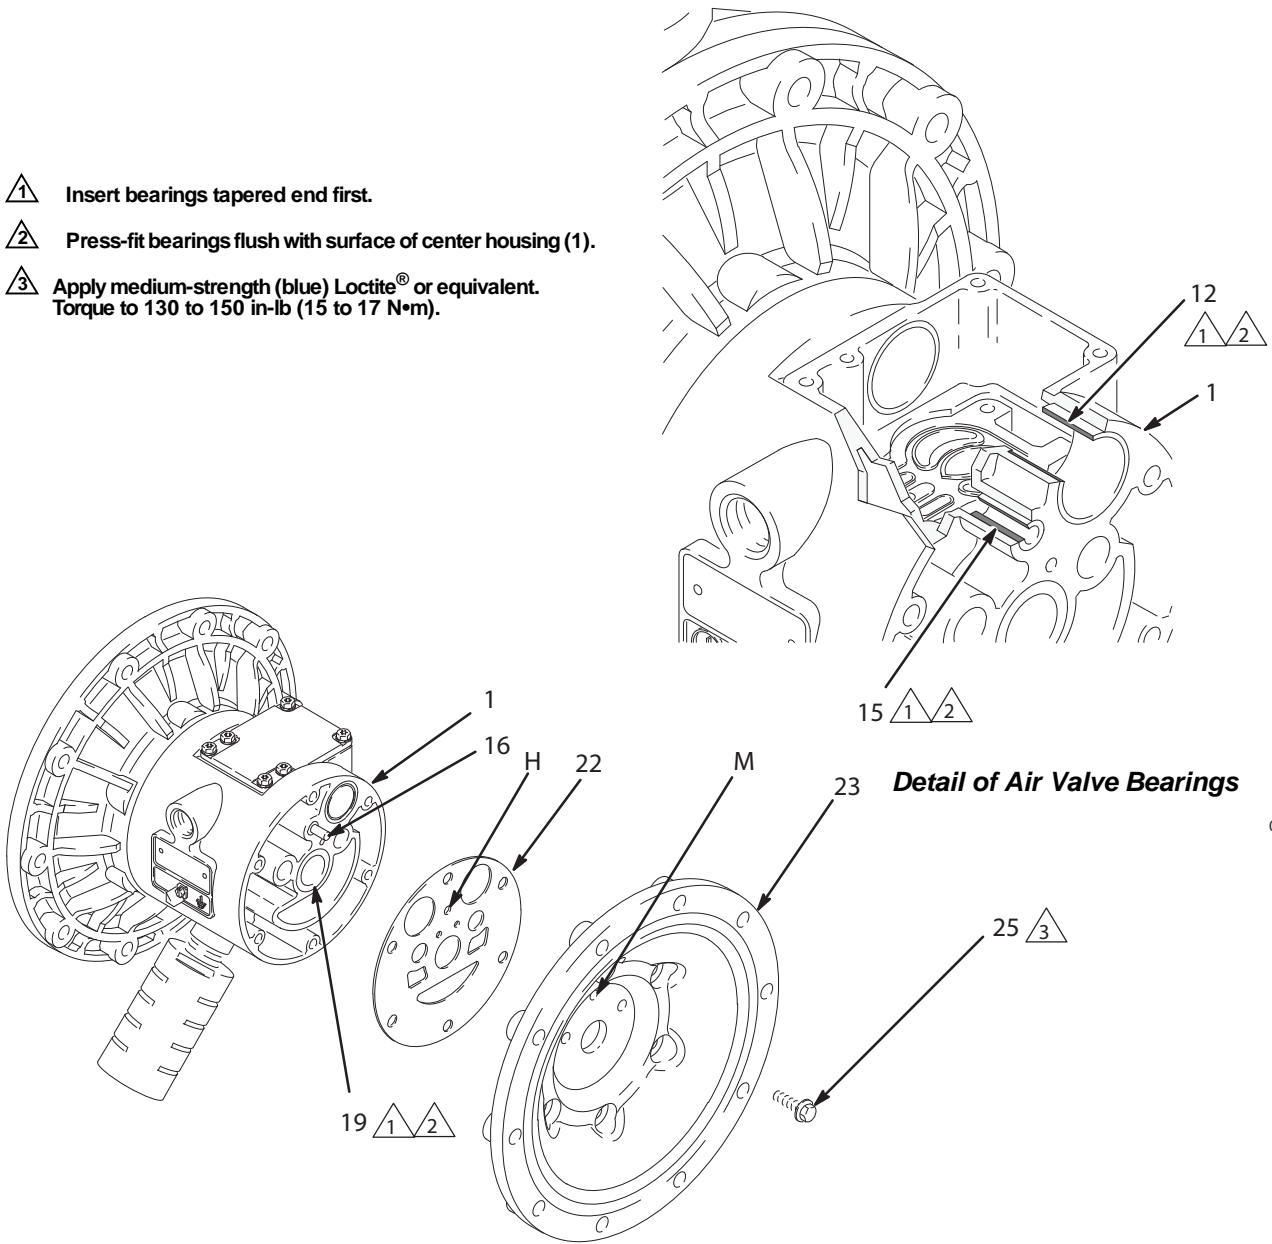

Fig. 14.
5. Using a 10 mm socket wrench, remove the screws holding the air covers (23) to the center housing (1). See Fig. 14.
6. Remove the air cover gaskets (22). Always replace the gaskets with new ones.
7. Use a bearing puller to remove the diaphragm shaft bearings (19), air valve bearings (12) or pilot pin bearings (15). Do not remove undamaged bearings.
1. If removed, install the shaft u-cup packings (402\*) so the lips face *out* of the housing (1).
2. The bearings (19, 12, and 15) are tapered and can only be installed one way. Insert the bearings into the center housing (1), *tapered end first*. Using a press or a block and rubber mallet, press-fit the bearing so it is flush with the surface of the center housing.
4. Align the new air cover gasket (22) so the pilot pin (16) protruding from the center housing (1) fits through the proper hole (H) in the gasket.
5. Apply medium-strength (blue) Loctite® or equivalent to the threads of screws (25). Align the air cover (23) so the pilot pin (16) fits in the middle hole (M) of the three small holes near the center of the cover. Install the screws (25), tighten by hand. See Fig. 14. Using a 10 mm socket wrench, torque the screws oppositely and evenly to 130 to 150 in-lb (15 to 17 N•m).